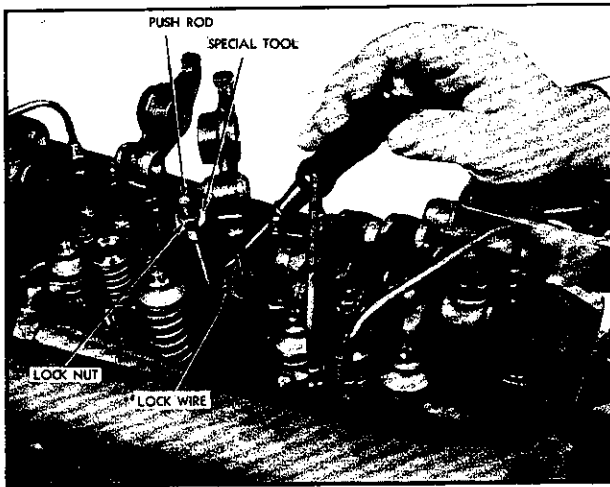

Fig. 14—Removing Push Rod from Upper Side of Cylinder Head.
3. Insert the special tool between the upper surface of the cam follower retainer spring and the lock nut on the push rod (See Fig. 14), then screw the nut down to compress the spring. With spring compressed, use a screw driver or thin nose pliers to dislodge the lock wire from the groove in the cylinder head. With lock wire dislodged, the push rod and cam follower may be pulled out of top of cylinder.